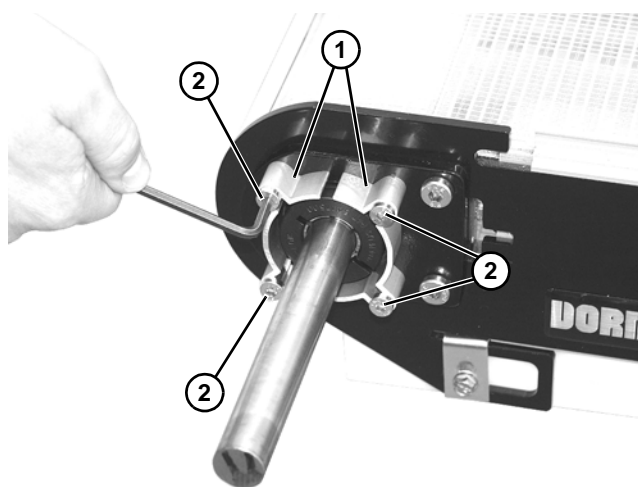

Figure 13
1. Install two spacer plates* (Figure 13, item 1) with four M6 hex head screws (Figure 13, item 2).